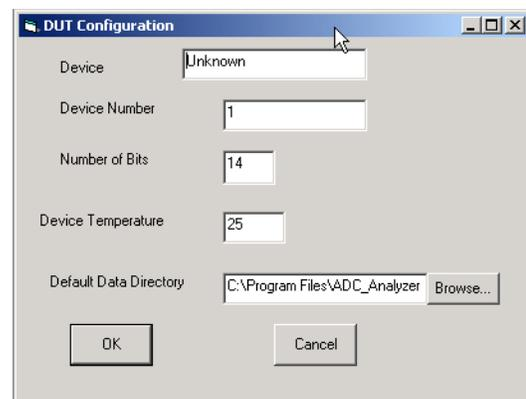

Figure 3. DUT Configuration
1. From the pull-down menus in the upper left hand corner, choose Config>DUT. A screen similar to Figure 3 will appear. Type the name of the ADC being evaluated in the Device box and the number of bits (resolution of the ADC) in the Number of Bits box. (Note: This information is only used for display purposes.) To specify a directory different from the default to store the configuration file, type a new location in the Default Data Directory box and then click OK.